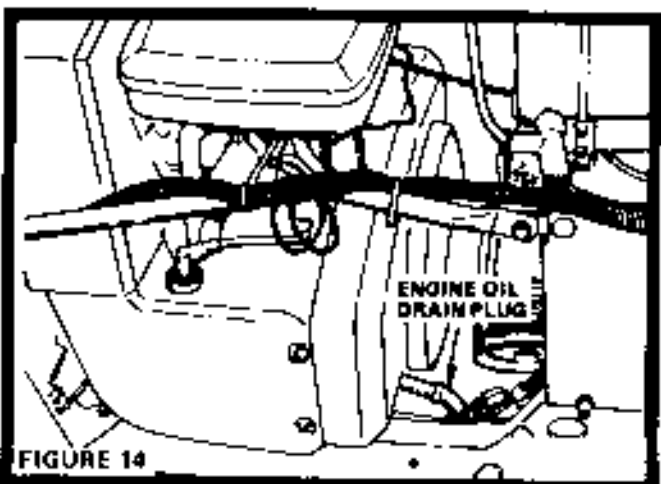

FIGURE 14
- a. The best time to drain Oil is with the Engine warm, when dirt and foreign material is suspended in the Oil. Unscrew Oil Drain Plug (Fig. 14) and catch Oil in a suitable container. Replace Plug.